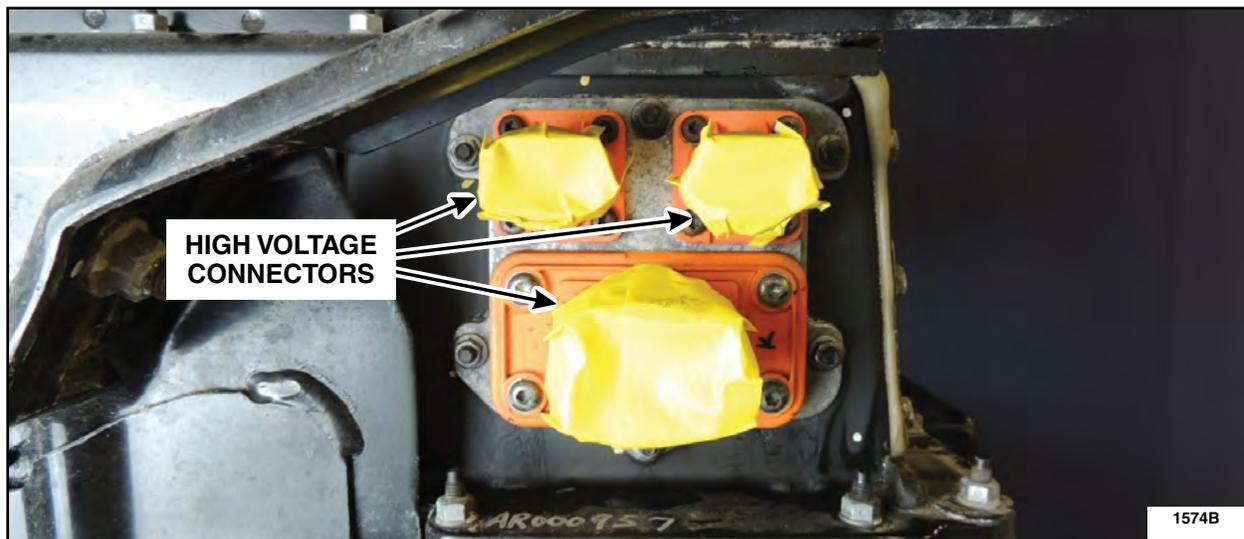

FIGURE 2
3. Apply tape (masking, electrical or duct) to the connector faces to protect the terminals and keep the connector housing clean. See Figure 2.